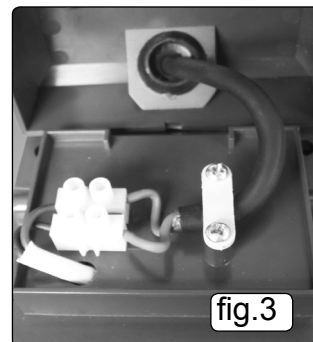

fig.3
- 4.6. Connect the live (brown) and neutral (blue) wires to the live and neutral terminals in the connector block (fig.3). This lamp is double insulated, and does not require earthing.